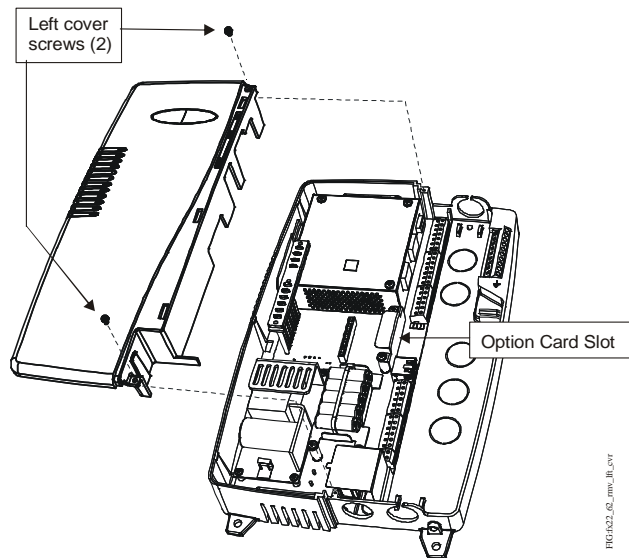

Figure 4: Left Cover Removal and Replacement
3. Remove the left cover next (see Figure 4). Set the two screws aside.
8. Replace the **left** cover (see Figure 4) and refasten with the two screws set aside.